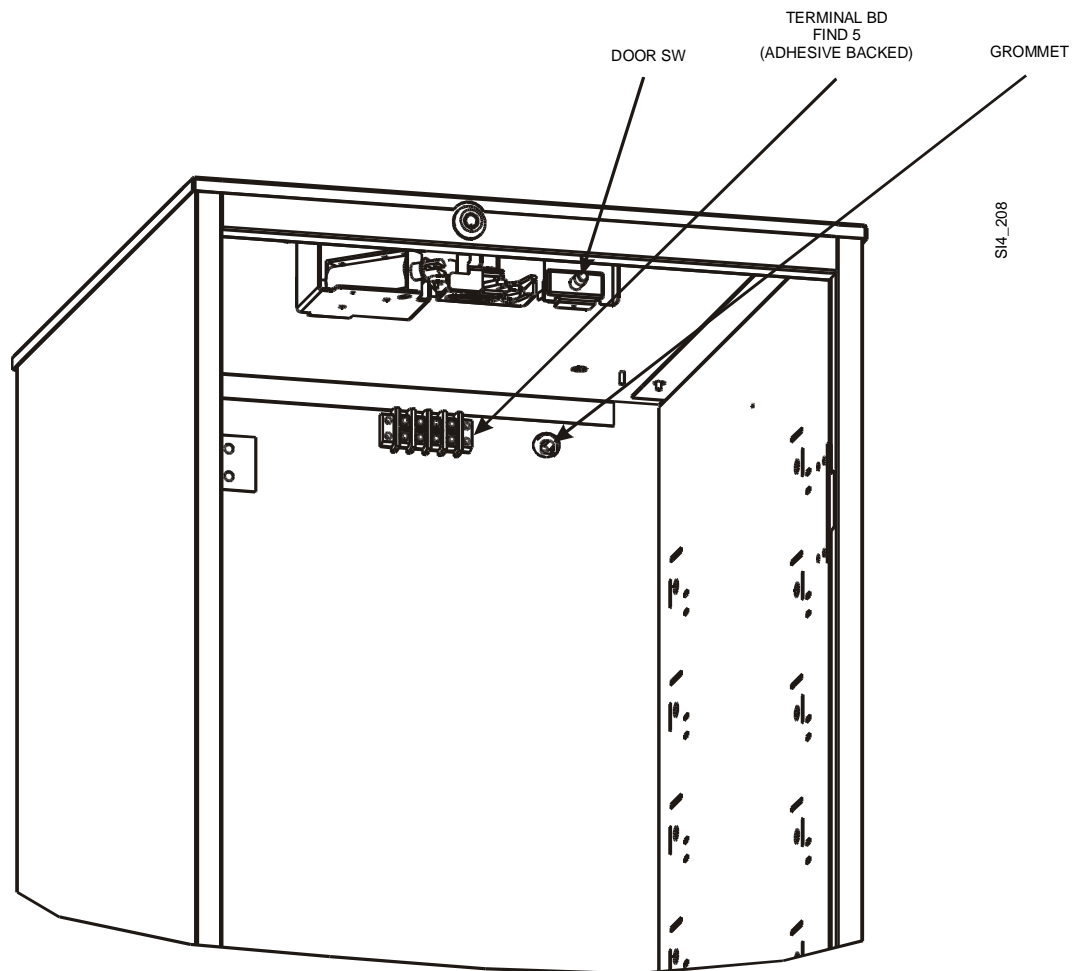

Figure 2-3 SCM Modification
6. Using adhesive backed tape (FIND 6), attach the terminal board to the inside of the back panel of the cabinet (above the latch cover when the cover is in place). Tie wires against existing cabling along top panel with provided cable ties (FIND 13). The approximate location of the terminal board is shown in Figure 2-3. Arrange terminal board and cable as necessary so that the cable does not hang or droop.